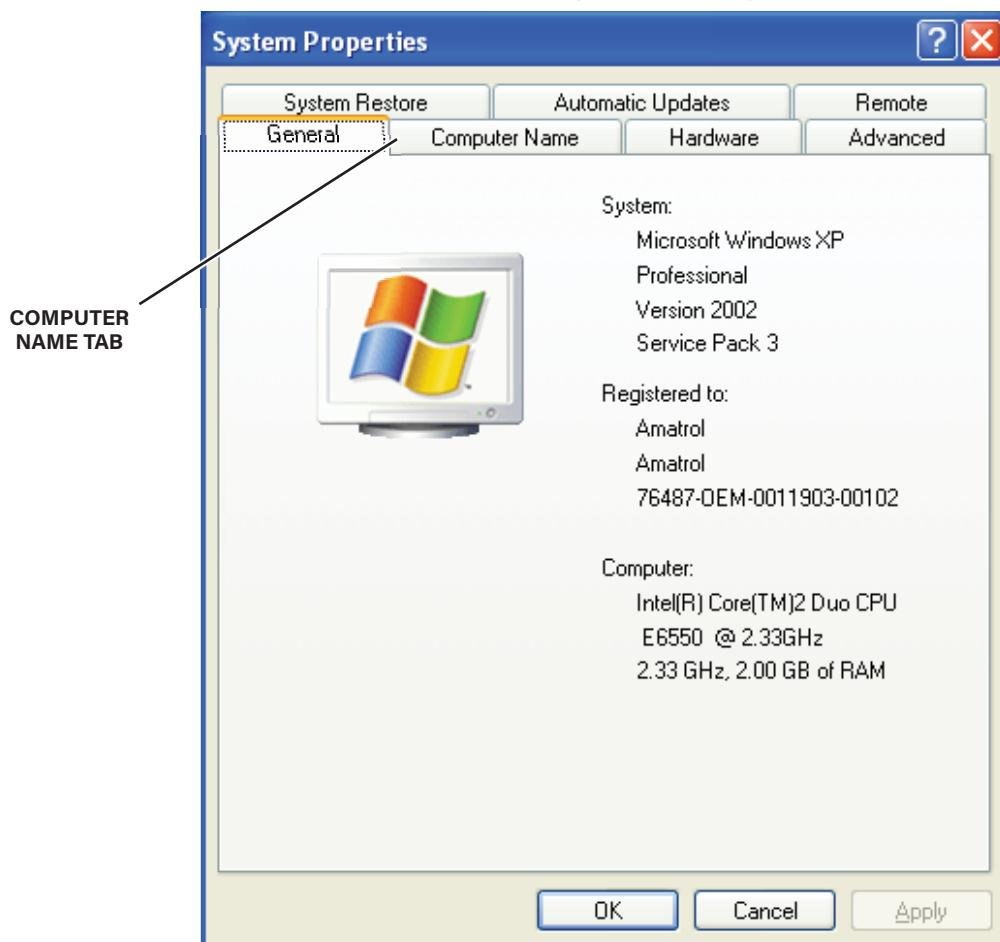

Figure 23. System Properties Dialog
- A. Click Start, Control Panel, and then System to display the System Properties dialog, shown in figure 23.